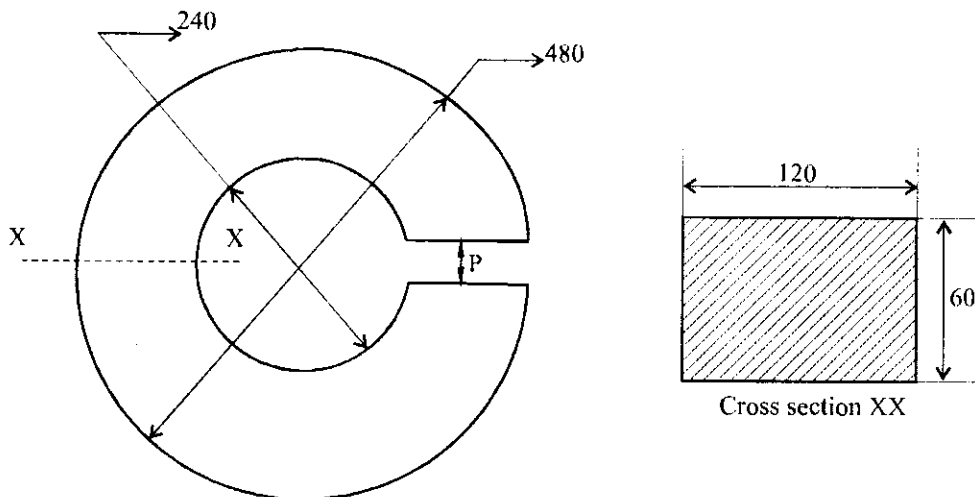

Fig. 1.36
5. Determine a safe value for load P for a machine element loaded as shown in Fig. 1.36 limiting the maximum normal stress induced on the cross section XX to 120 MPa.